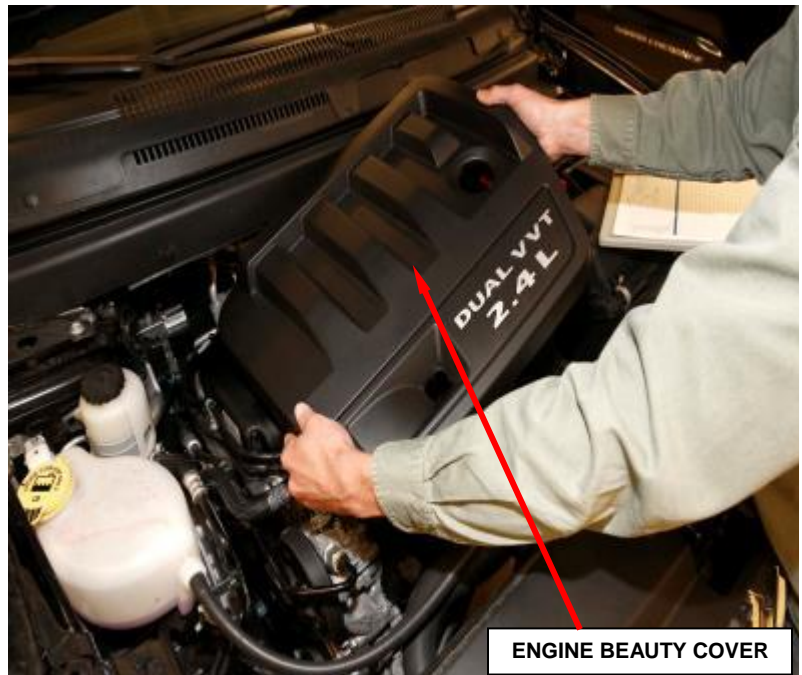

Figure 1 – Engine Beauty Cover
2. Grasp the engine beauty cover and pull upward (Figure 1).
3. Remove the engine beauty cover (Figure 1).